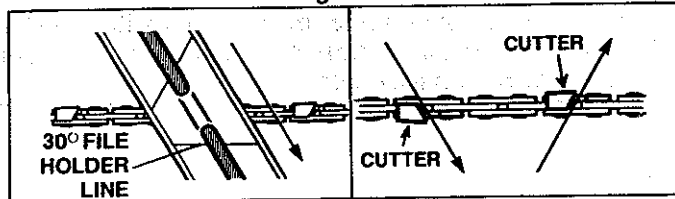

Figure 31
- c.) File from inside toward outside of cutter, straight across, on forward stroke only. Use 2 or 3 strokes per cutting edge. Figure 31.